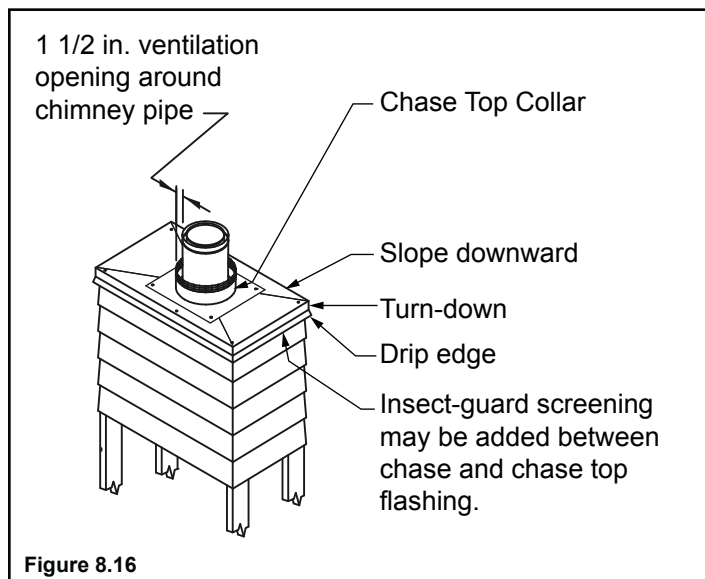

Figure 8.16
- When installed, the bottom of the chimney cap must be at least 6 in. above the flashing (Figure 8.16).
- Include a minimum 1 in. turn down and a 1/2 in. drip edge (optional) to prevent water from seeping into the chase. Refer to Figure 8.16.